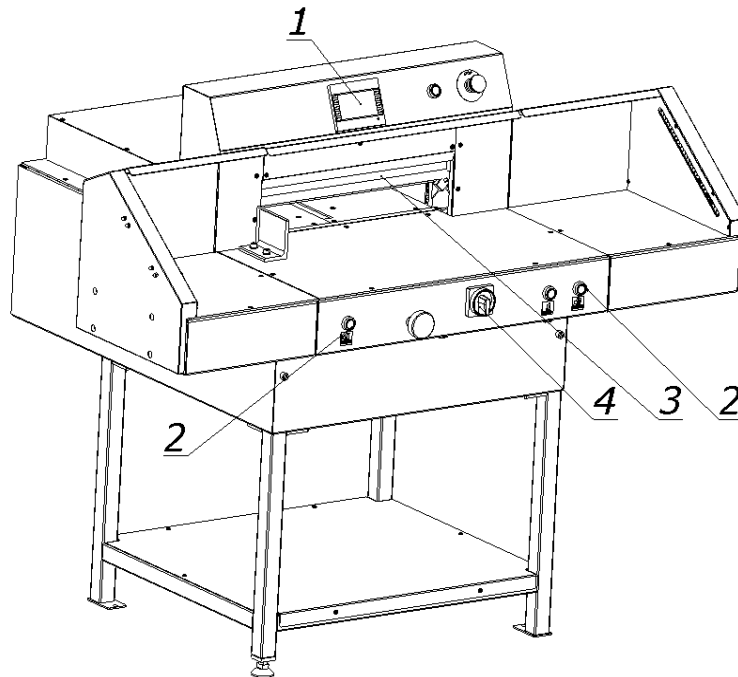

Figure 20.
8.1.1.1 Select the "Change knife" function on the programmer 1 screen (Fig.20) ("Programmer's manual").
8.1.1.2 Pressing the push buttons 2  (fig.20) at the same time, start the cutting cycle. The knife 3 is held in the lower position.
8.1.1.3. Turn off the power supply of the electrical system by turning the main switch knob 4 (fig.20) to the "0" position.